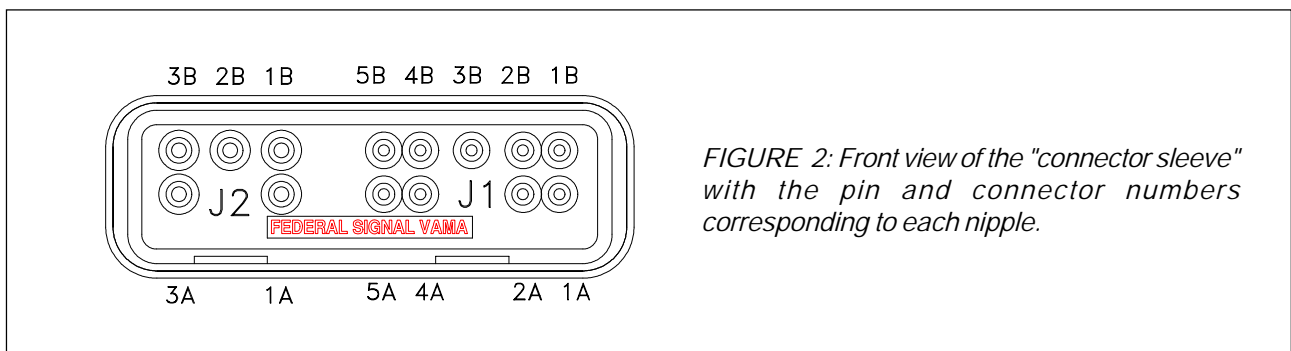

FIGURE 2: Front view of the "connector sleeve" with the pin and connector numbers corresponding to each nipple.
- Make a hole in the nipples of the sleeve for the wire to go through it. Make a hole only in the nipples that correspond to the wires needed for electrical connection. See the corresponding wiring diagram and figure 2.